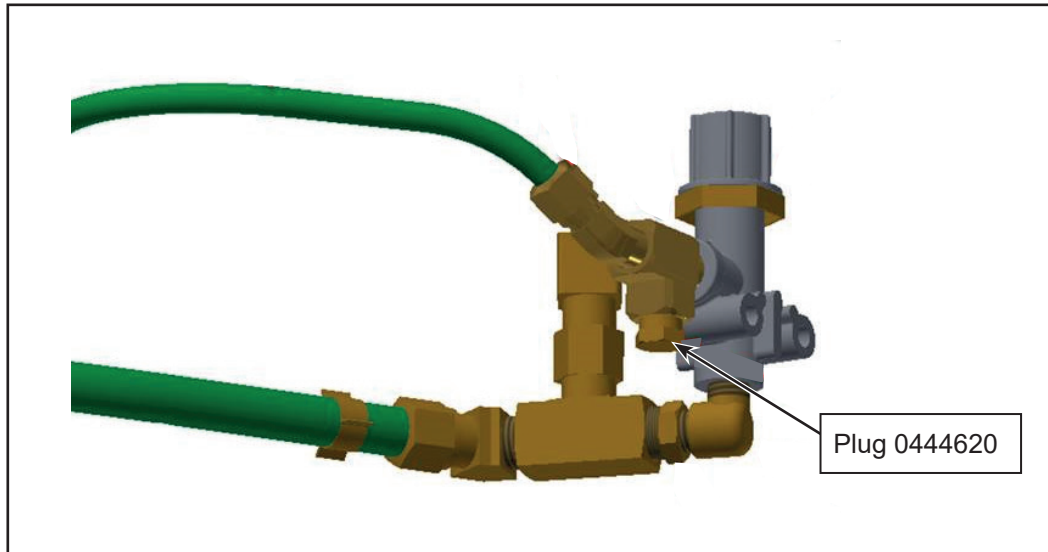

Figure 8 - Installation of Plug
- 1.13. Install plug P/N 0444620 on tee connector (see figure 8).